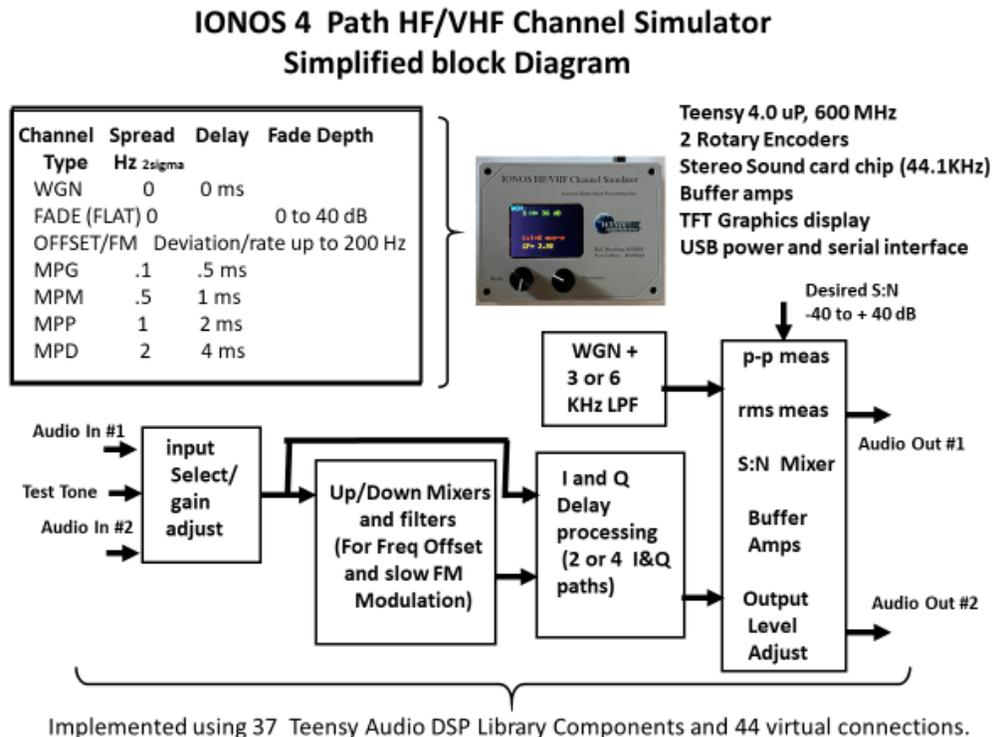
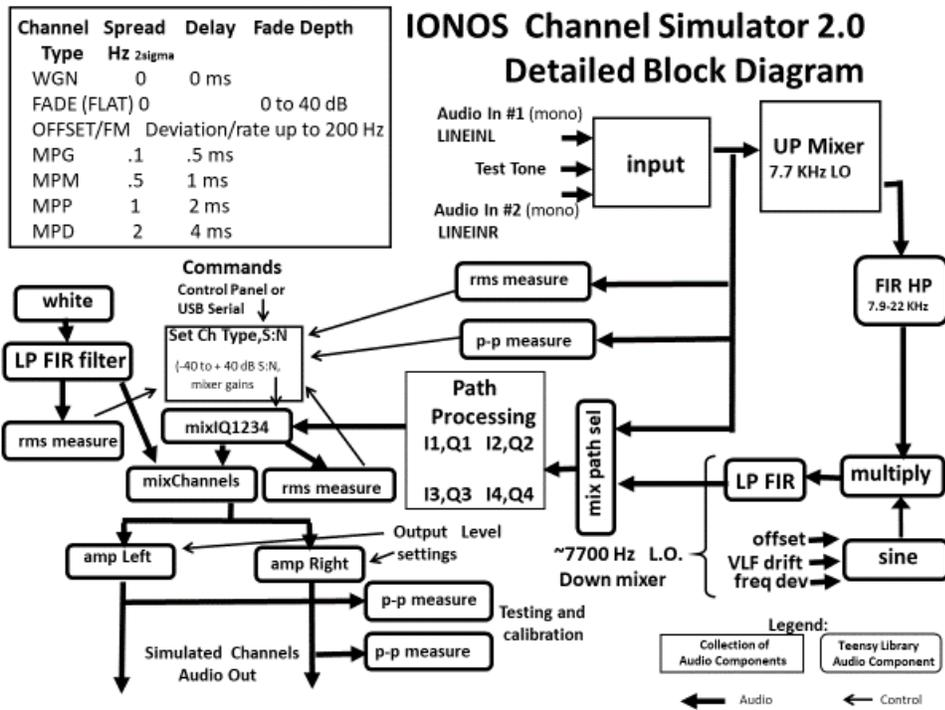
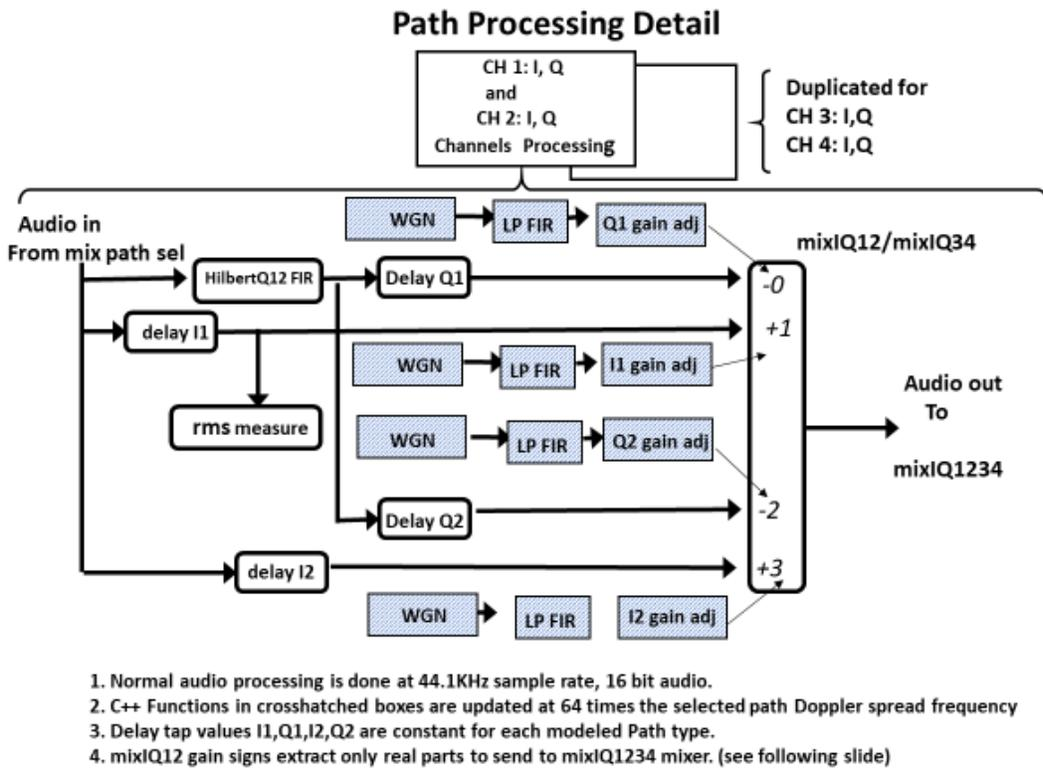

Fig 1. IONOS Sim 4 Path HF/VHF/UHF Channel Simulator Simplified Block Diagram
Fig 2. Teensy IONOS HF/VHF Simulator detailed block diagram.
Fig 3. I & Q Path Processing Detail of the IONOS Simulator
2.0 Basic Description: The IONOS Simulator is implemented using the low-cost but powerful Teensy 4.0 processor (<https://www.pjrc.com/store/teensy40.html>) and was developed using the Arduino platform and makes extensive use of the Teensy Audio DSP library <https://www.pjrc.com/teensy/gui/index.html> . The IONOS software is released under the MIT Open Source License (see appendix). Simplified and detailed block diagrams of the simulator are shown below in Fig 1 and Fig 2. The implementation uses 37 Teensy Audio Library “components” with 44 virtual “connections”. Fig 3 shows the detailed implementation of the I and Q path processing.